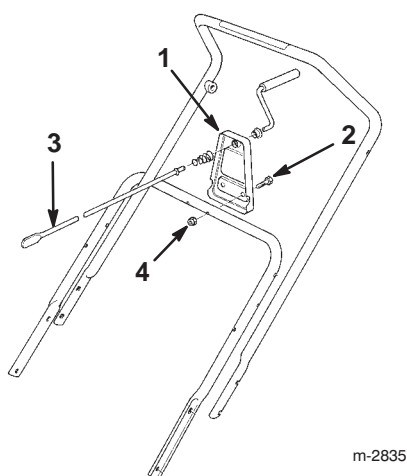

Figure 2
Remove the 2 hex-head bolts and locknuts that hold the chute crank support to the lower handle, and remove the chute crank assembly from the handle (Fig. 2).
1. Insert the chute crank assembly through the hole in the upper shroud, ensuring that the end of the crank assembly seats correctly in the face gear (Fig. 2).
2. Fasten the chute crank support to the lower handle with 2 hex-head bolts and locknuts (Fig. 2).